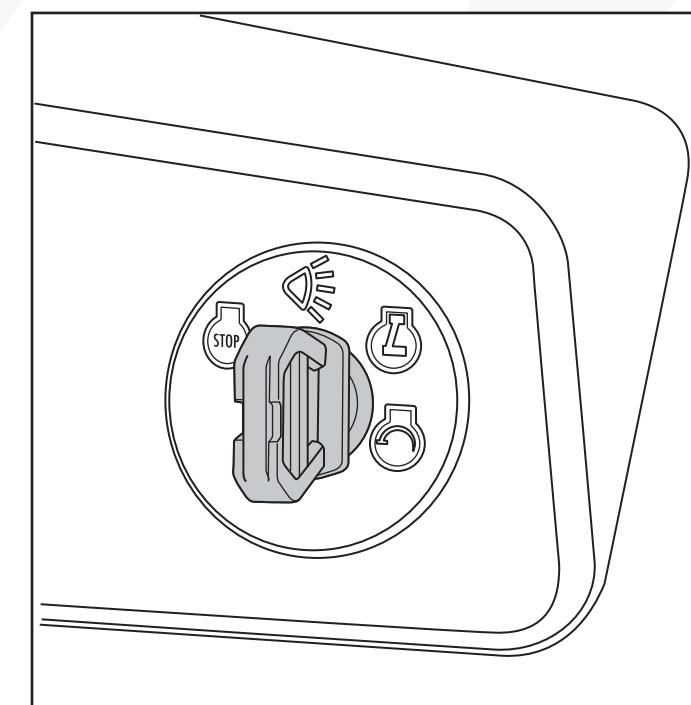

Fig. 17
- To turn on the headlights, turn the key from the RUN position to the HEADLIGHT position. (Fig. 17)